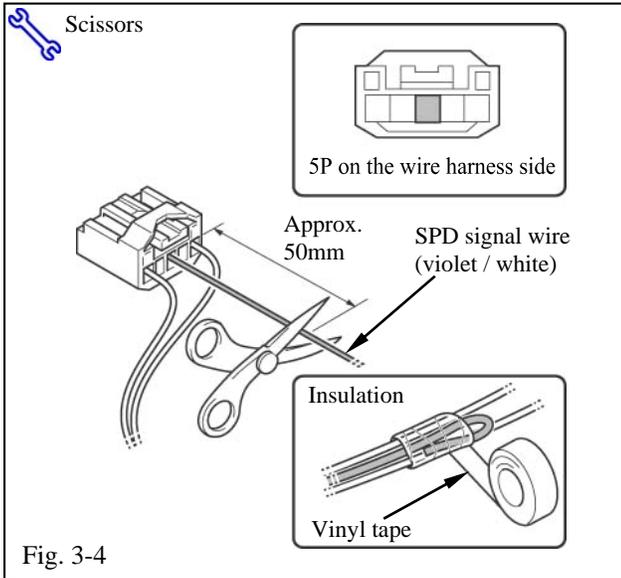

Fig. 3-4
- (1) Take the wire harness out of the kit.
- (2) Cut the SPD signal wire (violet / white) from the wire harness to approximately 50mm (Fig. 3-4).
- (3) Wrap the SPD signal wire (violet / white) with vinyl tape (Fig. 3-4).